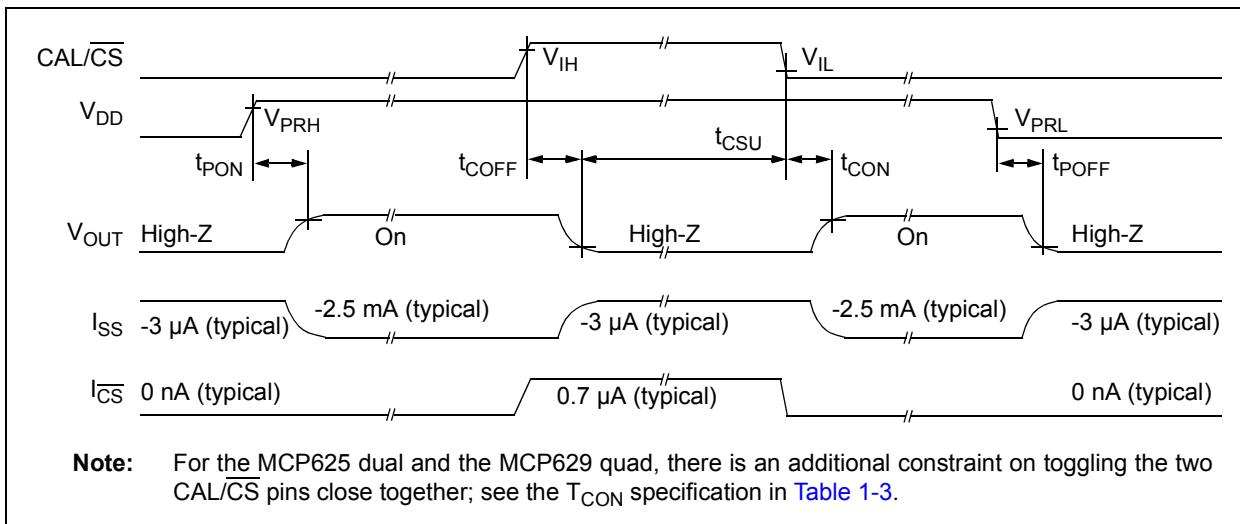

FIGURE 1-1: Timing Diagram.
**Electrical Characteristics:** Unless otherwise indicated,  $T_A = +25^\circ\text{C}$ ,  $V_{DD} = +2.5\text{V}$  to  $+5.5\text{V}$ ,  $V_{SS} = \text{GND}$ ,  $V_{CM} = V_{DD}/2$ ,  $V_{OUT} \approx V_{DD}/2$ ,  $V_L = V_{DD}/2$ ,  $R_L = 2\text{ k}\Omega$  to  $V_L$ ,  $C_L = 50\text{ pF}$  and  $\text{CAL/CS} = V_{SS}$  (refer to Figure 1-1 and Figure 1-2).